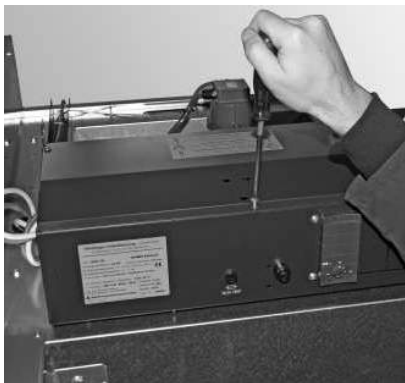

Fig. 84 Loosening screw at front and removing control panel cover
- The mains plugs for the unit and the suction turbine are on the rear of the control panel – Fig. 84.